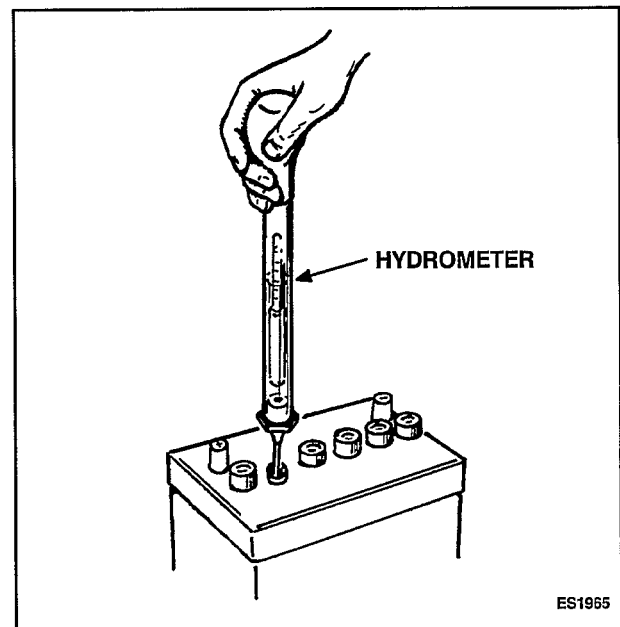

FIGURE 6. BATTERY CHECK
6. Use a battery hydrometer to check the specific gravity of the electrolyte in each battery cell (Figure 6). Charge the battery if the specific gravity measures less than 1.215. Do not overcharge the battery. Stop charging the battery when the electrolyte specific gravity reaches 1.260, at approximately 80° F (27° C).